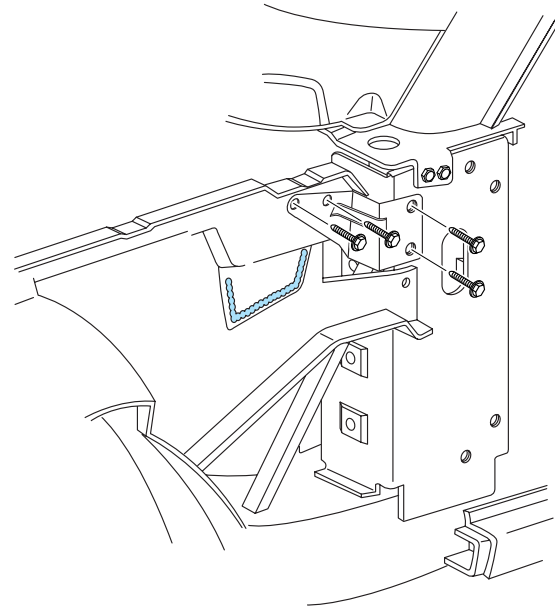
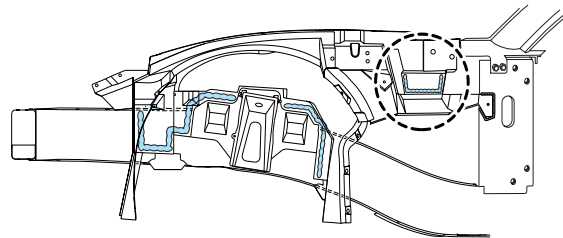

Fig. 3.9 — Remove Bolts Attaching Brace to Hinge Pillar
Fig. 3.10 — Note Use of Additional Bond on Left Wheelhouse at Cowl
- 4 Remove the four bracket bolts attaching the wheelhouse to the front hinge pillar (Fig. 3.9). Heat and pry to remove or dislodge adhesive beads attaching the wheelhouse to the vehicle, see Fig. 3.10. Remove the damaged wheelhouse.